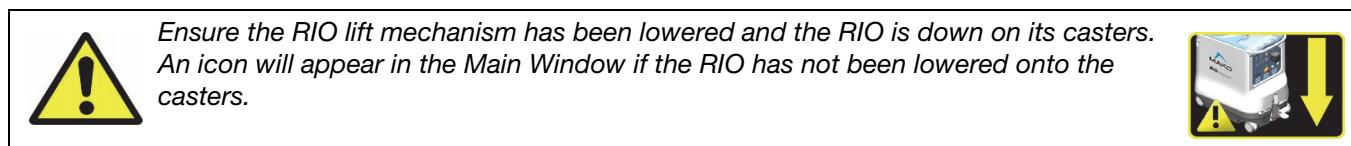

Figure 29. Fully Assembled Reamer and Power Equipment
1. Assemble the reamer by inserting the Reamer Handle into the End Effector on the RIO and attaching the MICS with the MICS adaptor (Figure 29). With small posterior incisions or when performing a Direct Anterior approach, use the offset reamer handle.